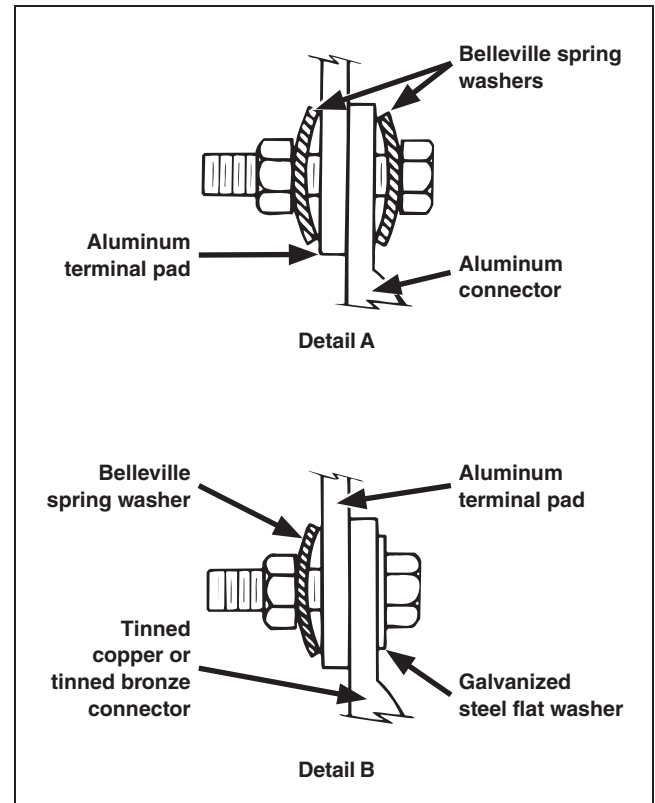

Figure 9. The terminal-pad connections.
- STEP 4.** Before connecting the cable terminators to the aluminum terminal pads, thoroughly wire-brush aluminum contact surfaces to remove any dirt or foreign materials as well as natural surface oxides. Immediately coat both contact surfaces to one-half inch (13 mm) beyond the joint with a uniform layer of Penetrox® A. Then, make the connections as follows. See Figure 9.
For aluminum connectors: Use ½-inch aluminum or galvanized steel hardware with two Belleville spring washers (not furnished), as shown in Detail A of Figure 9. Before tightening the connecting bolts, complete the installation of optional cable guides (where applicable) by following the cable-support manufacturer's instructions. Torque aluminum bolts to the manufacturer's specifications. Torque steel bolts to 50 foot-pounds (68 N-m) or, in the absence of a torque wrench, tighten each bolt until the Belleville washers are flat. Then, back off one-half turn. Do not use lock-washers with Belleville washers.
For tinned copper or tinned bronze connectors: Use ½-inch galvanized steel hardware with one Belleville spring washer (not furnished) against the aluminum terminal pad and one galvanized steel flat washer against the tinned connector, as shown in Detail B of Figure 9 on page 19. Before tightening the connecting bolts, complete the installation of optional cable guides (where applicable) following the cable-support manufacturer's instructions. Torque the bolts to 50 foot-pounds (68 N-m) or, in the absence of a torque wrench, tighten each bolt until the Belleville washer is flat. Then, back off one-half turn. Do not use lockwashers with Belleville washers.